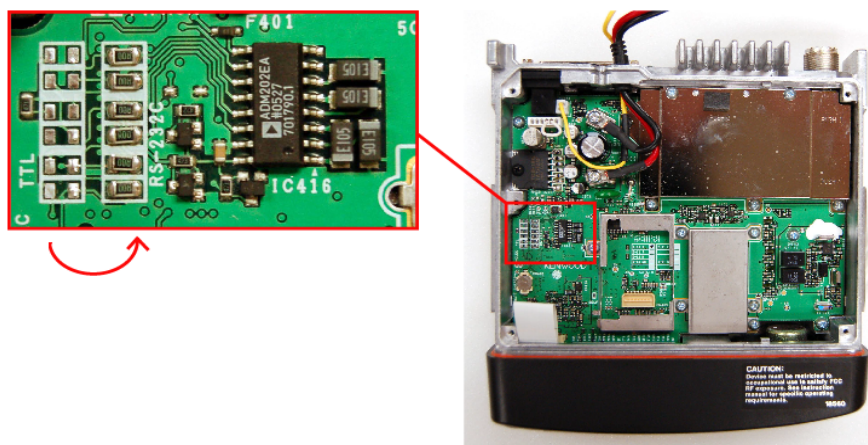

Figure 1
3. As shown in Figure 1, move the 6 zero ohm resistors from the TTL pads to the RS-232C pads.